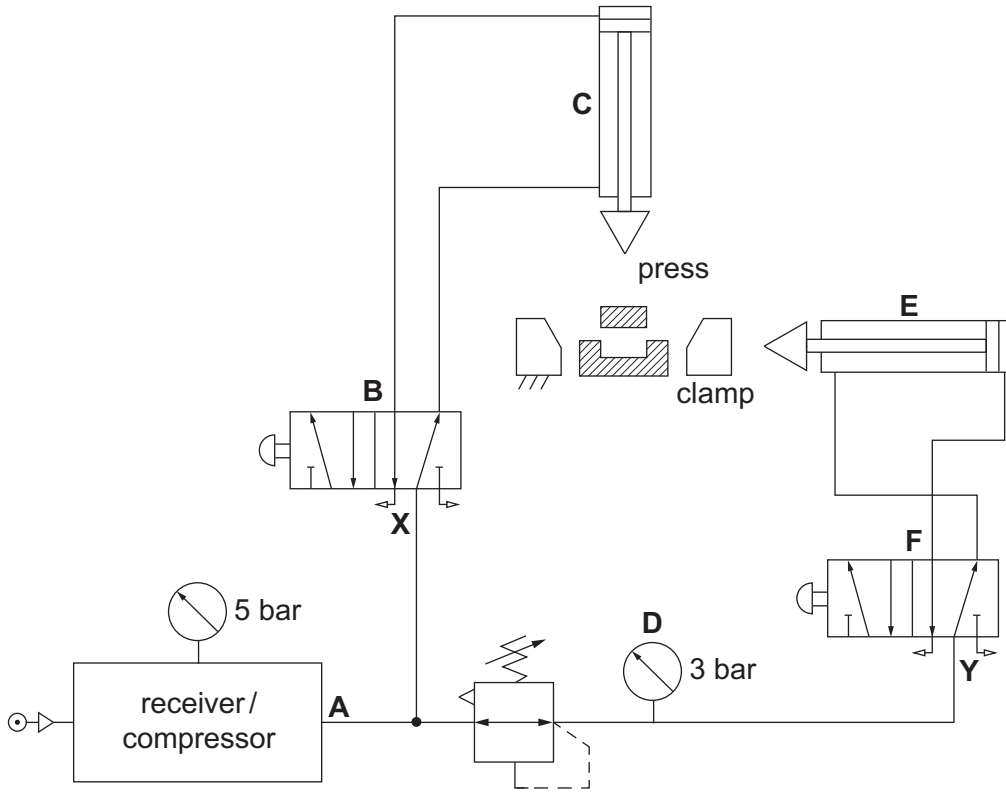

Fig. 5
4 Fig. 5 shows a pneumatic circuit to clamp and press a workpiece.
- (v) The statements below describe the stages used to clamp and press the workpiece in Fig. 5.